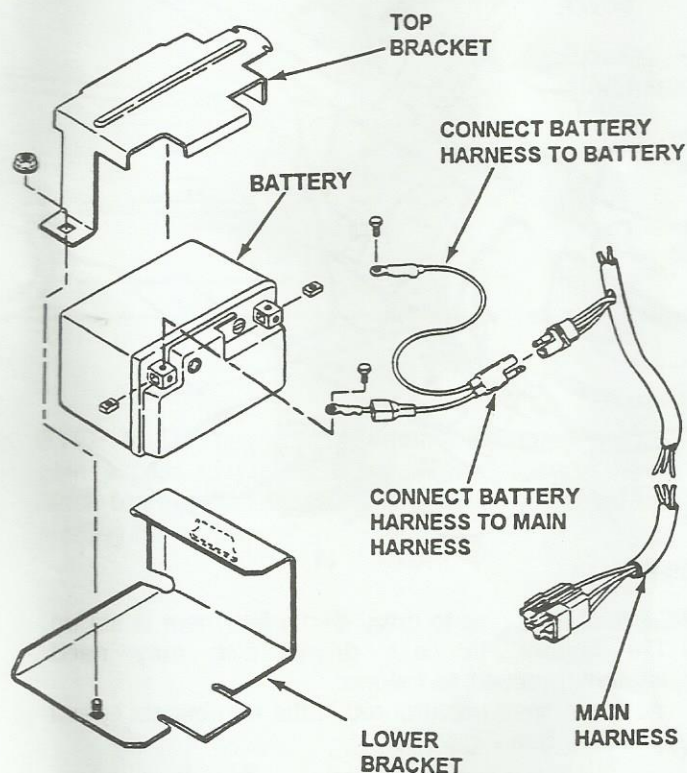

FIGURE 16
STEP 3: NOTE: Disconnect transfer rod from speed control rod to gain access to top bracket. Loosen bolt that secures top bracket to deck. Install battery into lower battery bracket as shown in Figure 16. Reinstall top bracket and retighten bolt securely.